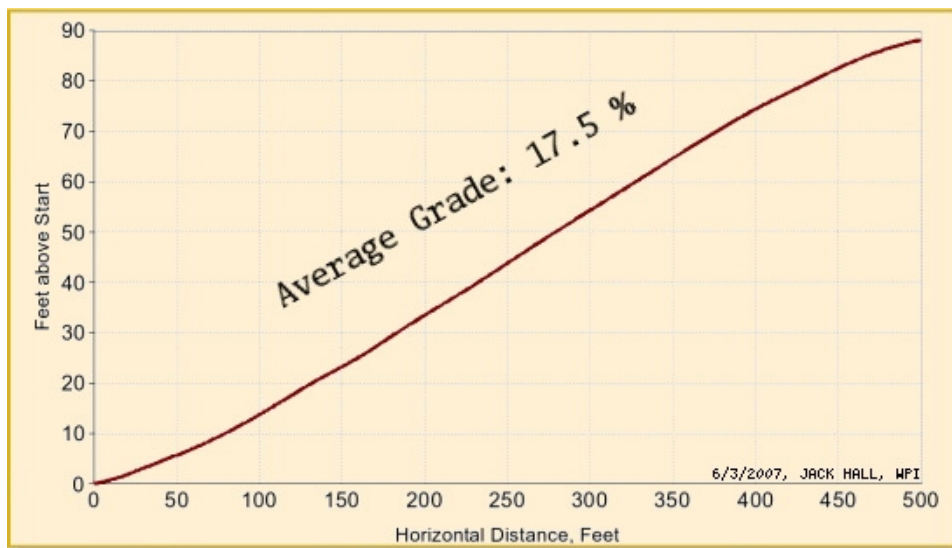

Figure 1: Elevation profile of George Street.
1. A cyclist in the George Street Bike Challenge for Major Taylor wants to climb George Street as fast as possible. Figure 1 shows the elevation profile for the short, but intense climb.